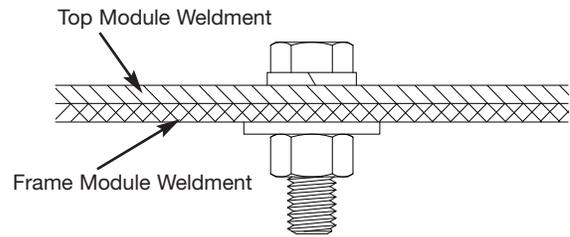

FIGURE 12a
1. Bolt top module weldment to frame module. Refer to below list for hardware order and Figure 12a.